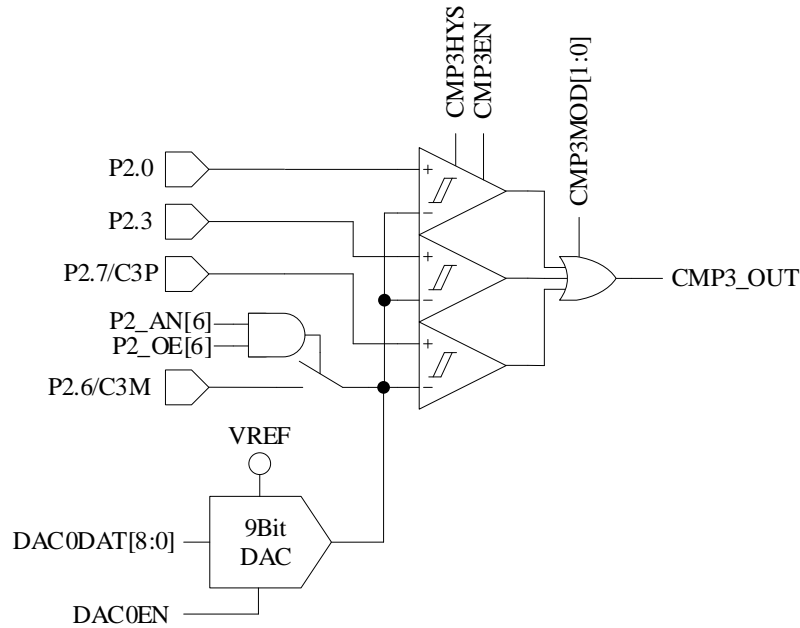

Figure 28-4 Triple-comparator Input Mode
- When CMP_CR1[CMP3MOD] = 1X, CMP3 works in Triple-comparator Input Mode. The connection of input and output pins are as shown in Figure 28-4.